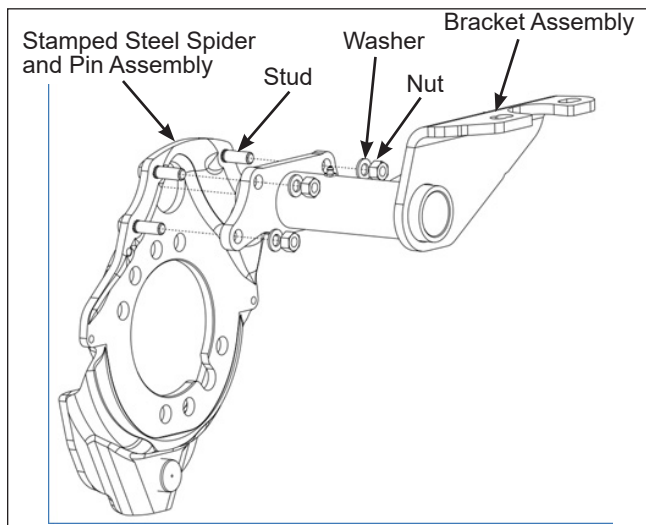

Figure 51 – S-Cam Bracket Installation
- Position the bracket against the spider and install the hardened washers and nuts. Use only approved washers. See *Figure 51*.